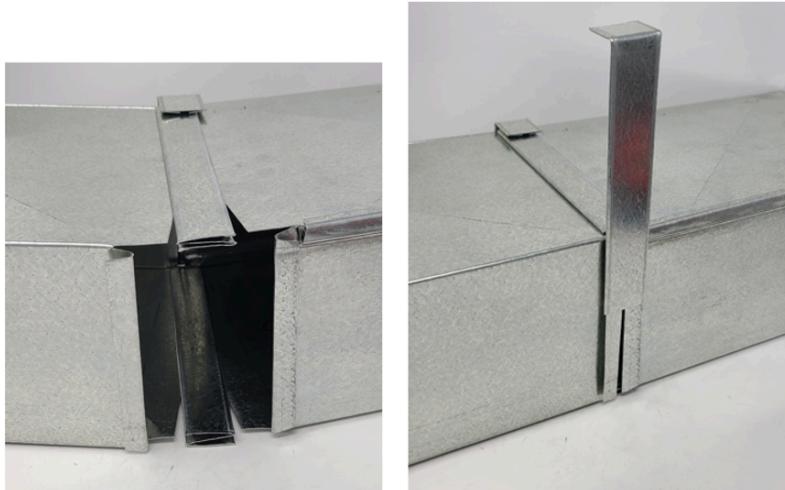

Figure 17. Assembling Slip & Drive Duct
You can see in Figure 17 the S-Cleats are used to connect the long side of the duct with the raw edges overlapped and slipped into the cleats. The drive cleats are used to pull together the two sections by hammering the Drive Cleat onto the two mated hemmed edges. Notice the Drive cleat has been cut to the approximate length and one end has already been bent over.
- Figure 17. “Assembling Slip & Drive Duct” by Camosun College is licensed under a CC BY-NC-SA licence.